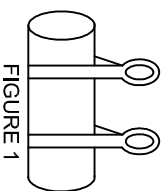

FIGURE 1
3. THERE ARE STRAPS AROUND EACH ROLL OF FLEX-A-MAT USED TO LIFT THE ROLL FOR PLACEMENT. A CABLE WILL BE USED TO REMOTELY UNDO THE STRAPPING WHEN THE ROLL IS IN PLACE. (SEE FIGURE 1)